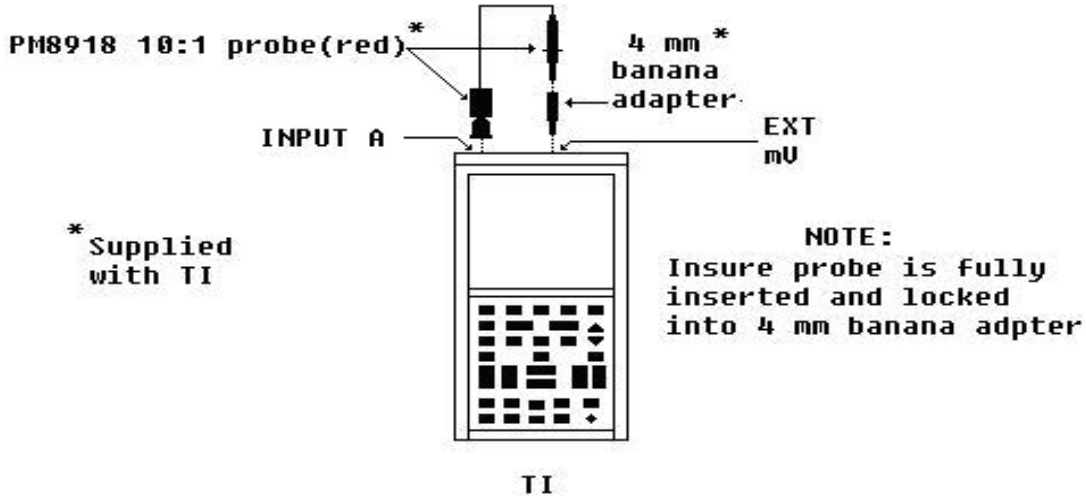

Figure 14. 10:1 probe for INPUT A.
- (63) Voltage ramp and 1:1 probe for **INPUT A** by pressing pushbuttons sequence (a) through (d) below:
- (64) Displayed "Calibration has been completed successfully", then press **(F1) CLOSE**.
- (65) Disconnect BNC cable from **INPUT A** and reconnect it to **INPUT B**.
- (66) Select 1:1 probe for **INPUT B** by toggling **▲ or ▼** to display/highlight (**▲ or ▼ CAL 22**).
- (67) Press **(F5) READY**, then wait till display/highlight **READY** is not highlighted.
- (68) Displayed "Calibration has been completed successfully", then press **(F1) CLOSE**.
- (69) Connect equipment as shown in figure 14 below:
- (70) Select 10:1 red probe for **INPUT A** by toggling **▲** or **▼** to display/highlight (**▲** or **▼** **CAL 19**).
- (71) Press **(F5) READY**, then wait till display/highlight **READY** is not highlighted.
- (72) Displayed "Calibration has been completed successfully", then press **(F1) CLOSE**.
- (73) Disconnect PM8918 10:1 red probe from **INPUT A**.
- (74) Connect equipment as shown in figure 14, but use the PM8918 10:1 grey probe to **INPUT B** side.
- (75) Select 10:1 grey probe for **INPUT B** by pressing **▲** or **▼** to display/highlight (**▲** or **▼** **CAL 20**).
- (76) Press **(F5) READY**, then wait till display/highlight **READY** is not highlighted.
- (77) Displayed "Calibration has been completed successfully", then press **(F1) CLOSE**.
- (78) Disconnect PM8918 10:1 gray probe from TI.